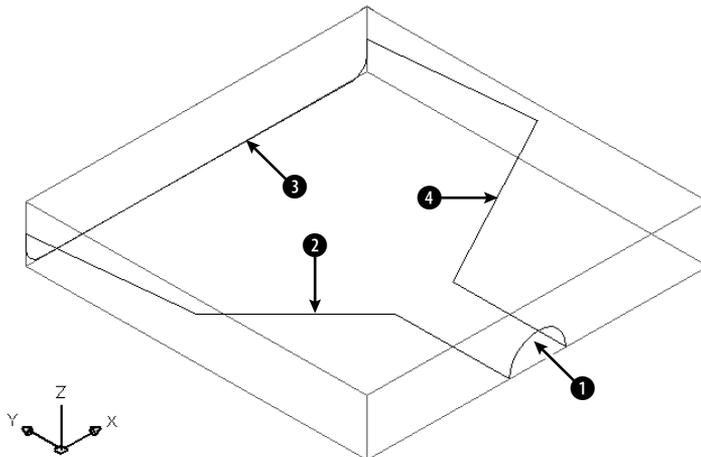

Figure 23-35: The four curves are the basis for creating an edge surface.
2. Save it as `ab23-07.dwg` in your `AutoCAD Bible` folder. You see four curves in a bounding box, as shown in Figure 23-35. In this exercise, you use the curves to draw a dustpan.
4.  Choose Edge Surface from the Surfaces toolbar. At the prompts, select **1**, **2**, **3**, and **4** in Figure 23-35.